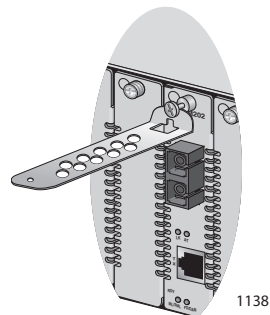

Figure 49. Removing a Line Card from an AT-CV5000 Chassis
4. Hook the slot at the end of the removal tool onto the captive screw at the top of the line card, and pull towards you to remove the card from the chassis, as shown in Figure 49.